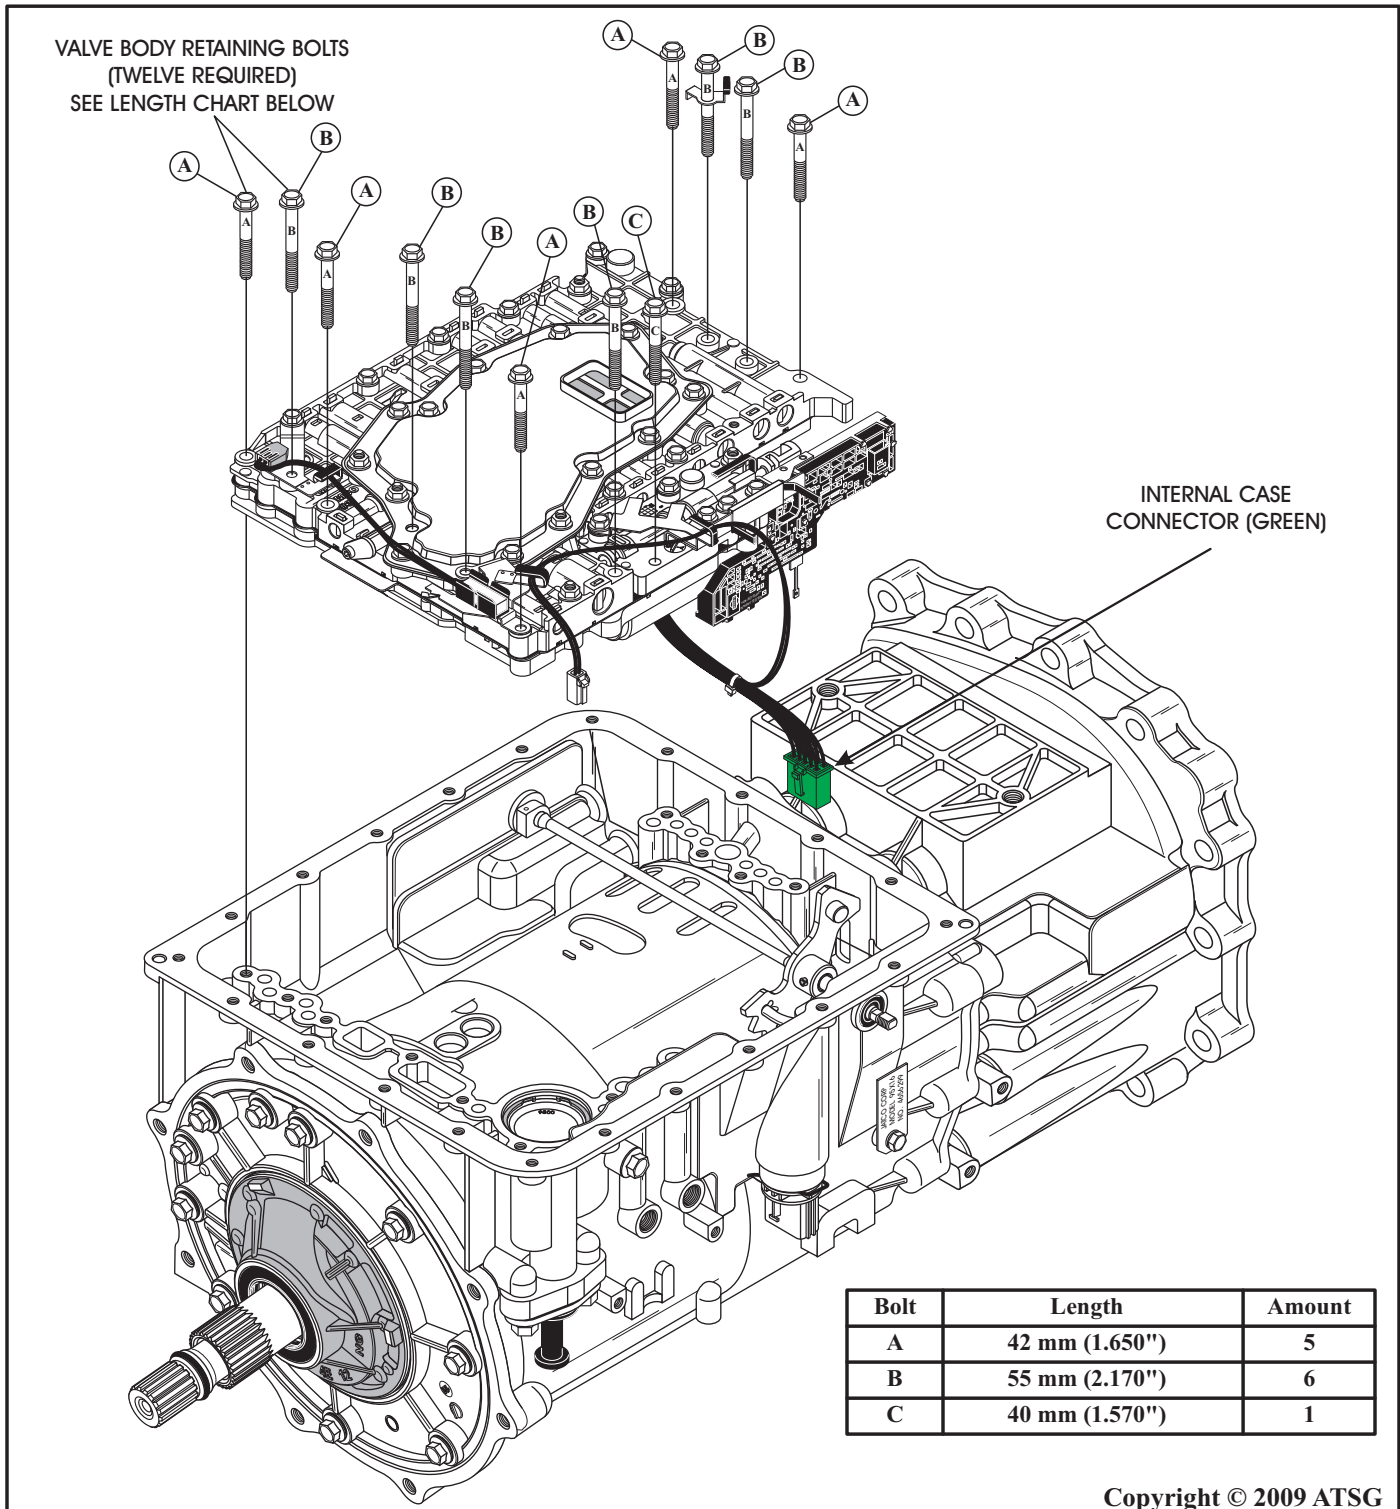

Figure 40
10. Remove *only* the 12 valve body retaining bolts that are shown in Figure 40.
Note: Notice there are 3 different lengths and a chart has been provided in Figure 40.
11. Remove the valve body by lifting straight up, as shown in Figure 40.
12. As you lift valve body, you must reach down and disconnect the internal (Green) connector from the "Pass Through" connector, as shown in Figure 40.